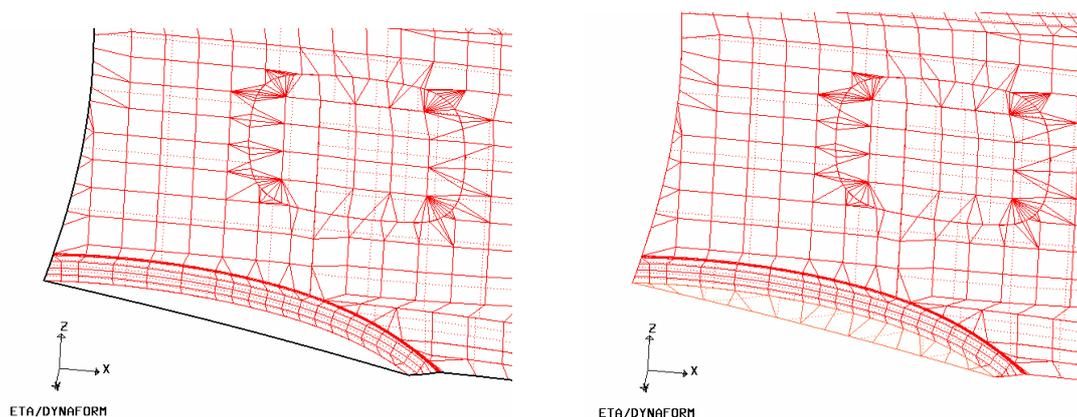

Figure 6.1.42 Morphing Result
- Click **FILL BOUNDARY** to fill in the mesh between the original boundary and the smoothed boundary. The result is shown in Figure 6.1.42.